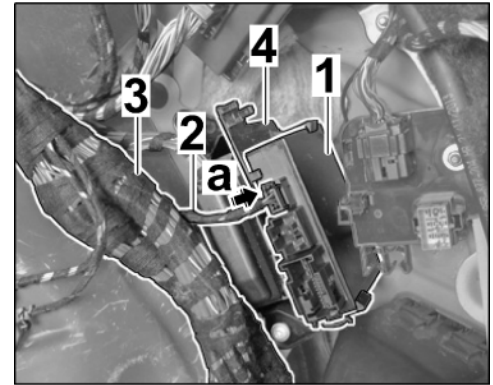

Figure 5
2.2.1 Clip trailer hitch control unit into bracket (⇒ *Figure 5*)
2.2.3 Connect plug connection for trailer hitch preparation to the control unit (⇒ *Figure 5 -a-*).